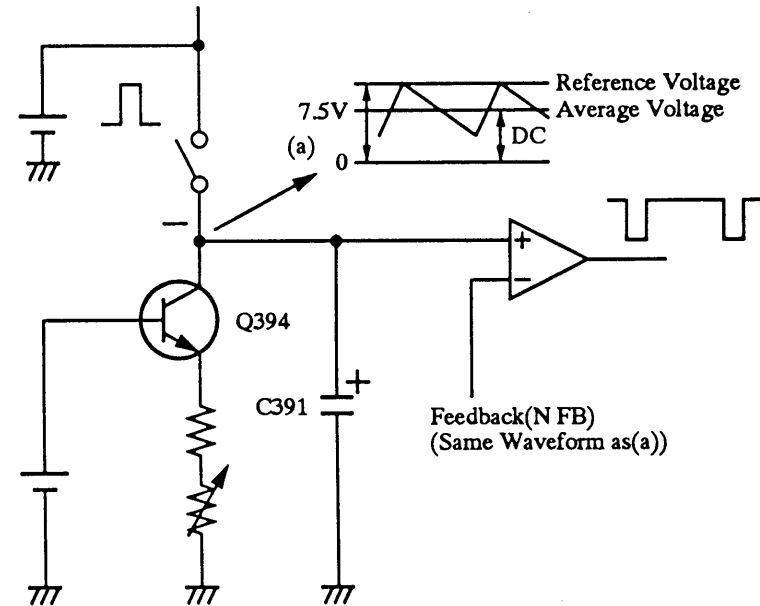

Fig. 4-4
The sawtooth wave generation circuit has a configuration shown in Fig. 4-4.
- (2) When obtaining the S character voltage just stated above, the integration circuit consisting of R307, R308, R306, and C334 also integrates the parabola voltage containing the sawtooth wave voltage across R302, and the resultant parabola voltage is also fed back. Under this condition the screen is compressed at the upper side and expanded at the lower side. To correct this, a sawtooth wave voltage component obtained across the deflection yoke is divided with R303 and R397 and fed back as an inverted input through R396 and R394. In other words, the sawtooth wave current component caused by the sawtooth wave voltage described here is also contained in the discharge current of C391 (refer to Fig. 4-4) used in the reference sawtooth wave voltage generation. The parabola component voltage is developed across C391 and this works to cancel the parabola component fed back to the non inverting input, thus correcting the linearity. R397 is a variable resistor and varies the amount of the sawtooth wave voltage component applied to the non inverting input terminal, thereby adjusting the linearity balance at upper and lower screen.